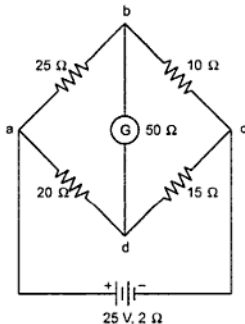

Fig. 1.85
30. Using Kirchhoff's laws, find the current flowing through the galvanometer G in the Wheatstone bridge network shown in the Fig. 1.85. (Ans. : $48.746\ \text{mA}$)